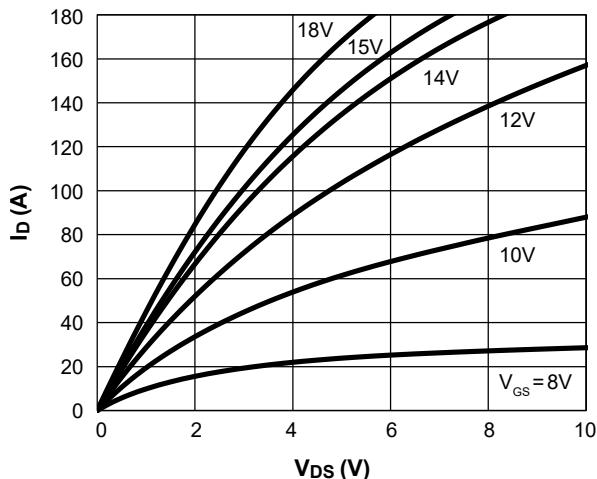

Figure 1. On-Region Characteristics $T_J = 25^\circ\text{C}$
- I. The static characteristics in Figures 1 to 8 are obtained using <300 ms pulses, duty cycle 0.5% max.